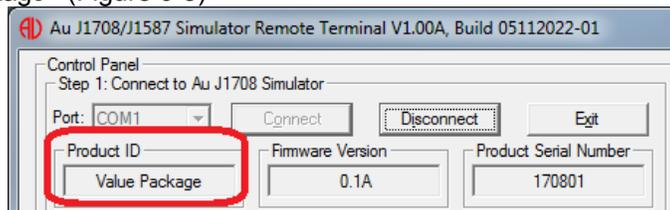

Figure 6-8
- 2. Launch Au J1708/J1587 Simulator Remote Terminal program. Select the serial communication port that was used to connect J1708/J1587 Simulator, e.g. COM1, then click "Connect" button, notice the Product ID shows "Value Package" (Figure 6-8)